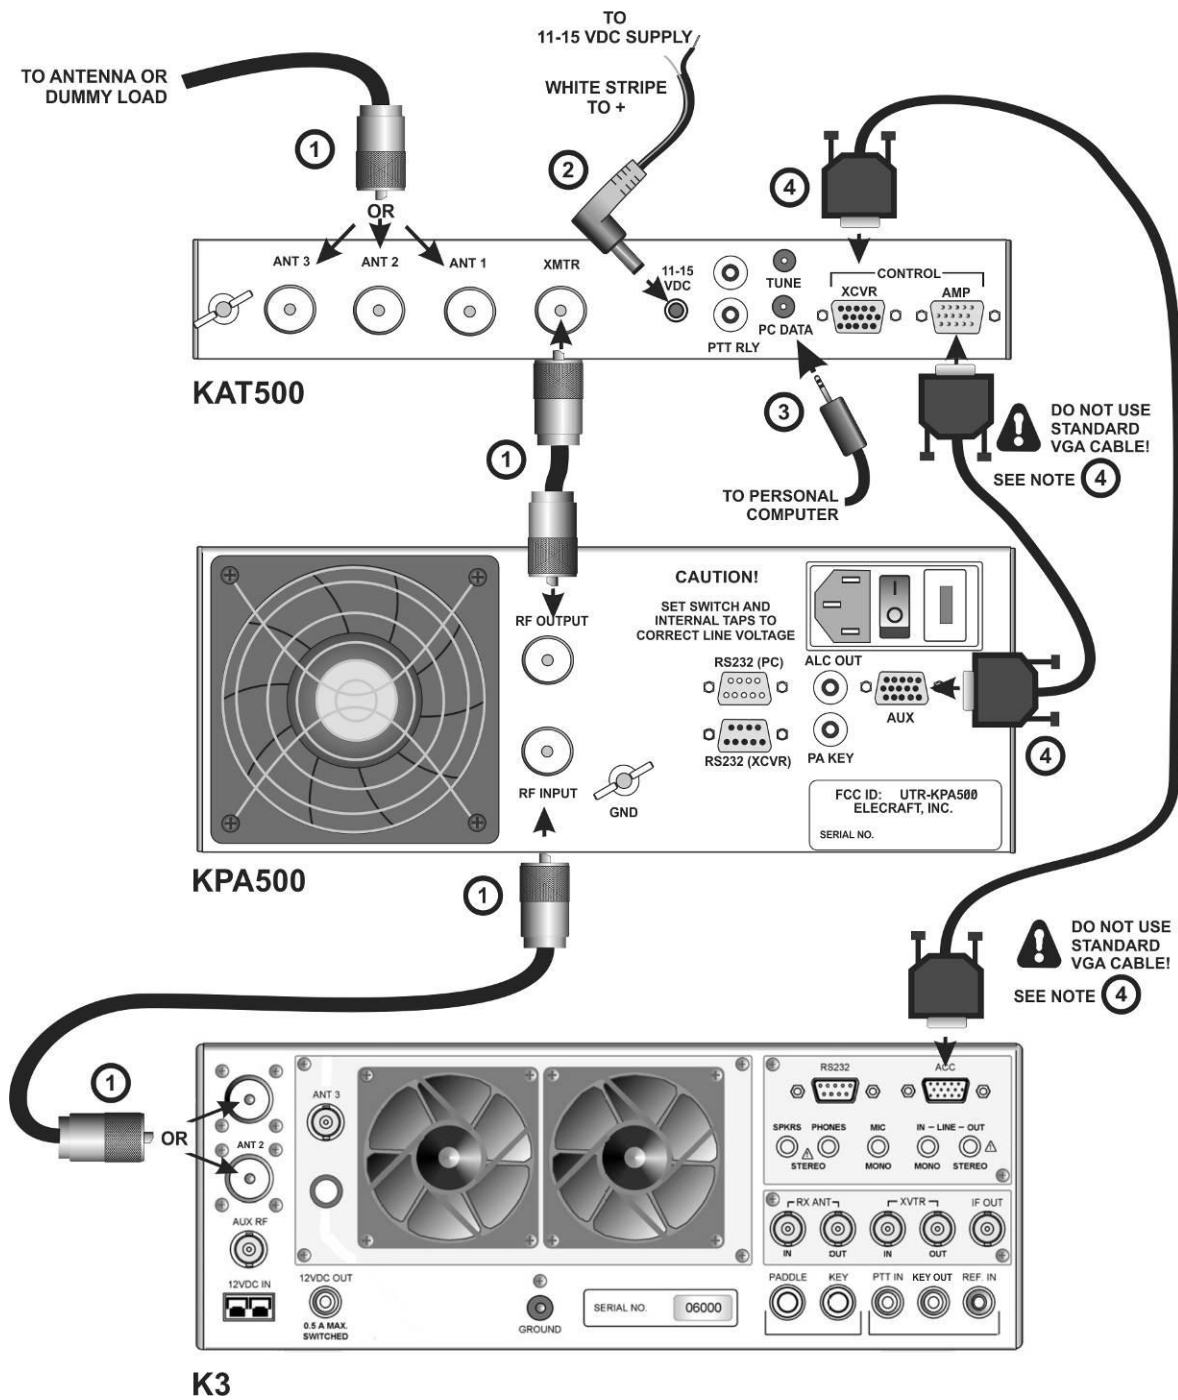
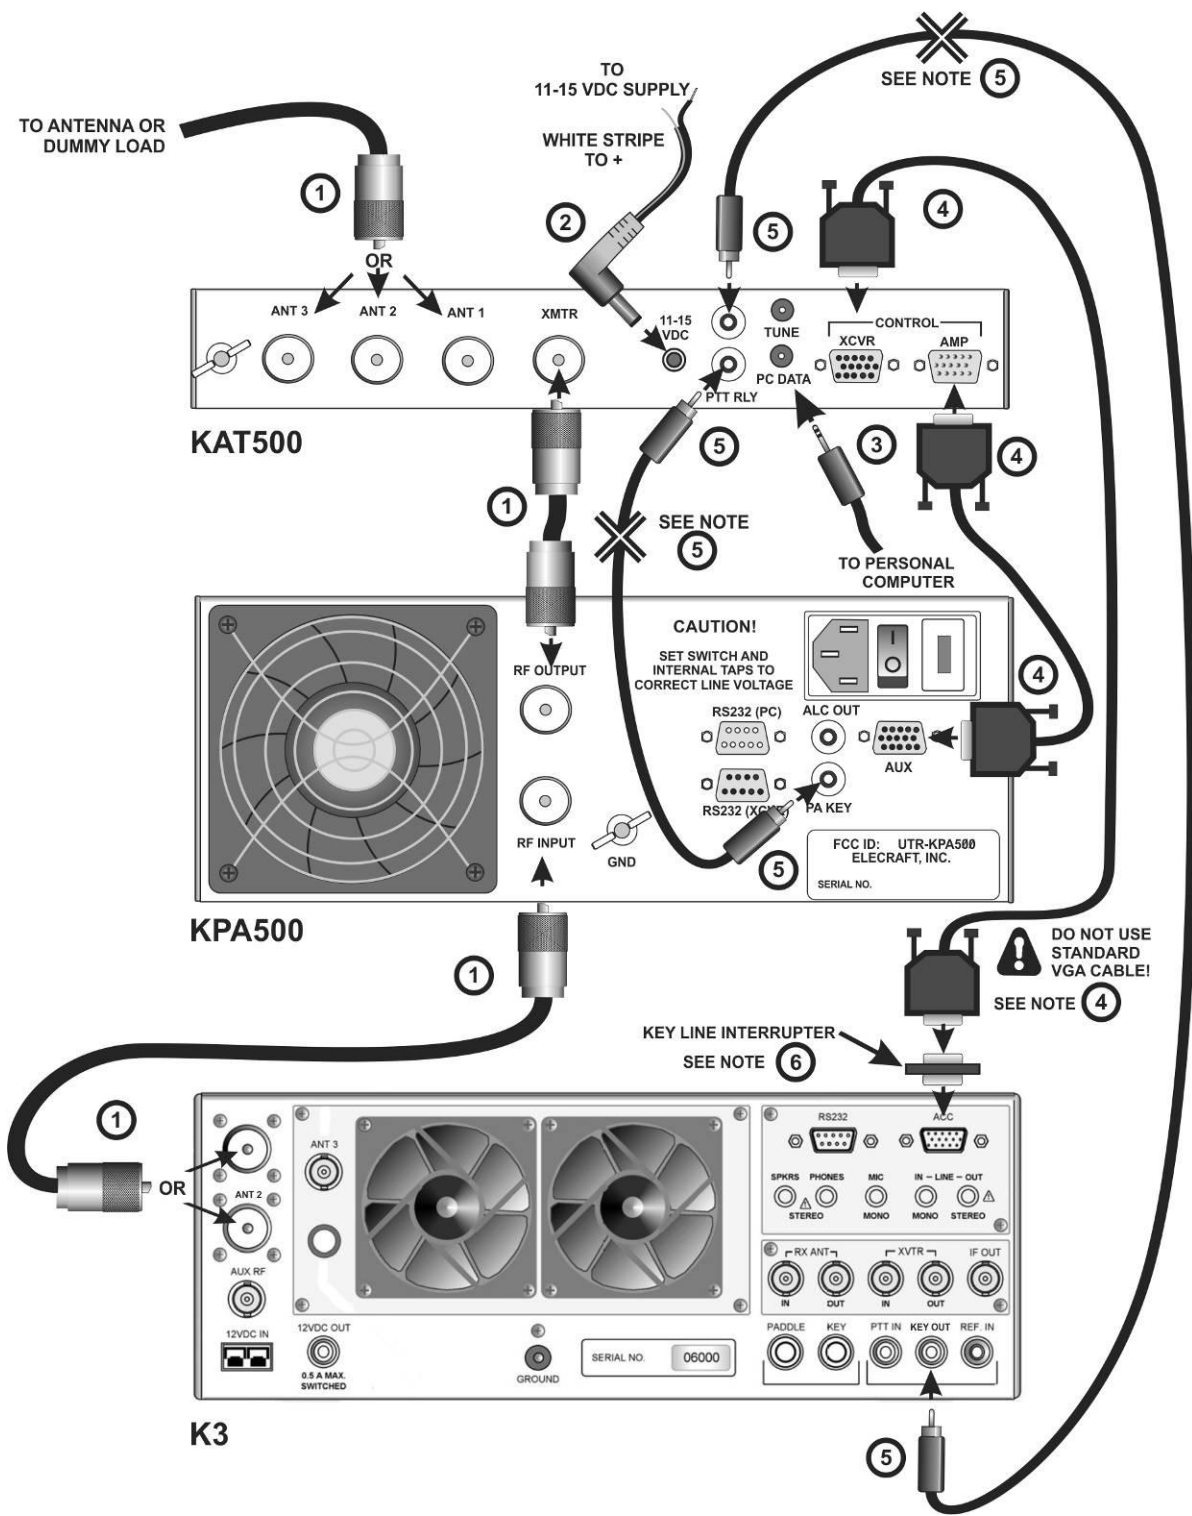

Figure 1. Cabling Diagram: Elecraft K3, KPA500 and KAT500 Using E850463 Aux Interface Cables.
Figure 2. Cabling Diagram: Elecraft K3, KPA500 and KAT500 Using E850463 Aux Interface Cables with Separate Key Line.
The basic E850463 Aux cabling setup is shown in Figure 1. If your station setup requires that other equipment (e.g. SteppIR controller) have access to the key line to inhibit the amplifier, use the cabling described in Figure 2.
The KAT500 works well with any H.F. transceiver covering 1.8 through 54 MHz and amplifier delivering up to 1,000 watts output (see *Specifications*, page 2). If you have an Elecraft K3 transceiver and KPA500 amplifier you can connect them to the KAT500 as shown here. However, for best integration of the K3 equipment, we recommend that you use the E850463 Aux interface cable as shown on page 3 and Figure 1.
- **IF YOU ARE USING THE KAT500 WITH A K3 CONNECTED USING THE E850463 AUX CABLE** (Setup Figure 1 or Figure 2): Apply power to the KAT500 before or at the same time you turn the K3 on. If you turn the K3 on first the K3 may not initialize until you apply power to the KAT500.